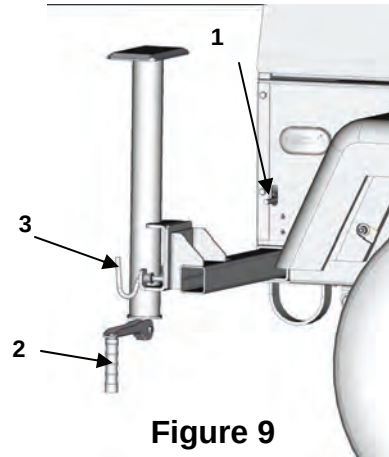

Figure 9
- Extend the front outrigger stabilizers out and lock in place (**Figure 9**).